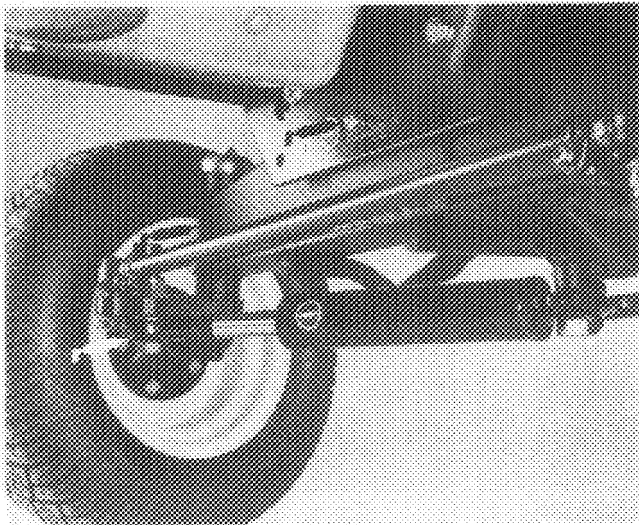

Figure 28
2 wheel drive machines only – cylinder end (2) center pivot (1), spindles (2) (Fig. 28).